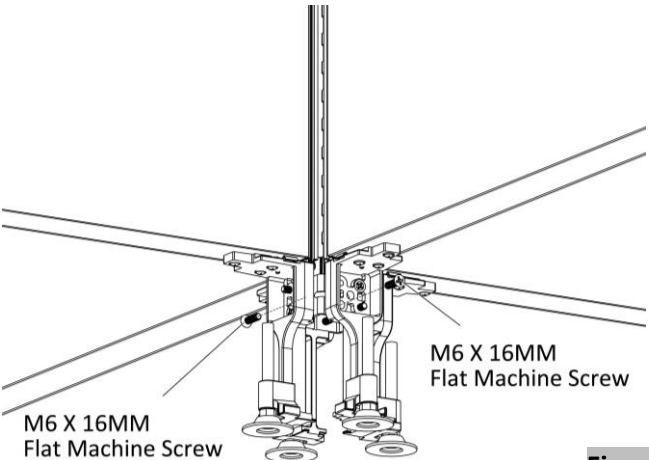

Figure 10
- Secure the base with two M6 X 16MM Flat Machine Screws, (Figure 10).